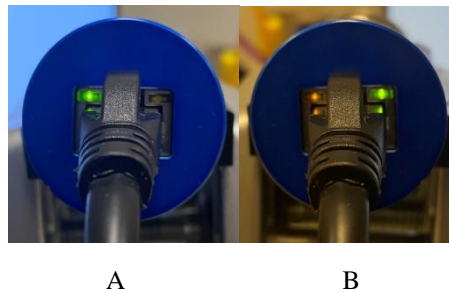

Figure 6.2 Check for Power/RS communication (sensor) Can you use a better photo that does not have crooked cable connections?
- A solid green LED ensures it is powered up correctly (Figure 6.2 A).